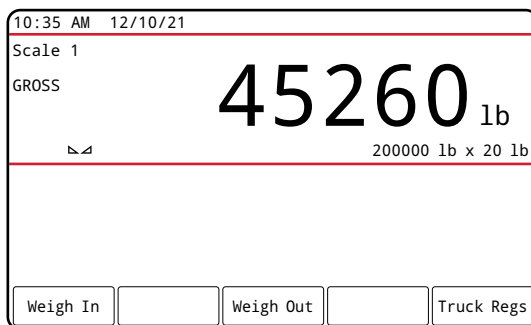

Figure 7-2. Truck Mode Softkeys
**NOTE:** *Softkey 2 and Softkey 4 must be set to Blank in order to achieve the softkey arrangement in Figure 7-2.*